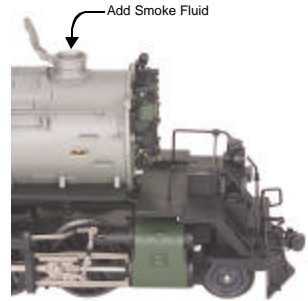

Figure 3. Add Smoke through the Smokestack
2. Prime the operating smoke unit with smoke fluid before operating. Add 15-20 drops of smoke fluid through the smokestack (see Fig. 3 on pg. 10), then gently blow into the stack to eliminate any air bubbles in the fluid.
When preparing to run this engine, add 15-20 drops of smoke fluid through the smokestack (see Fig. 3). We recommend M.T.H. ProtoSmoke, Seuthe, LGB, or LVTS fluids. Do not overfill the unit or the fluid may leak out and coat the interior engine components.